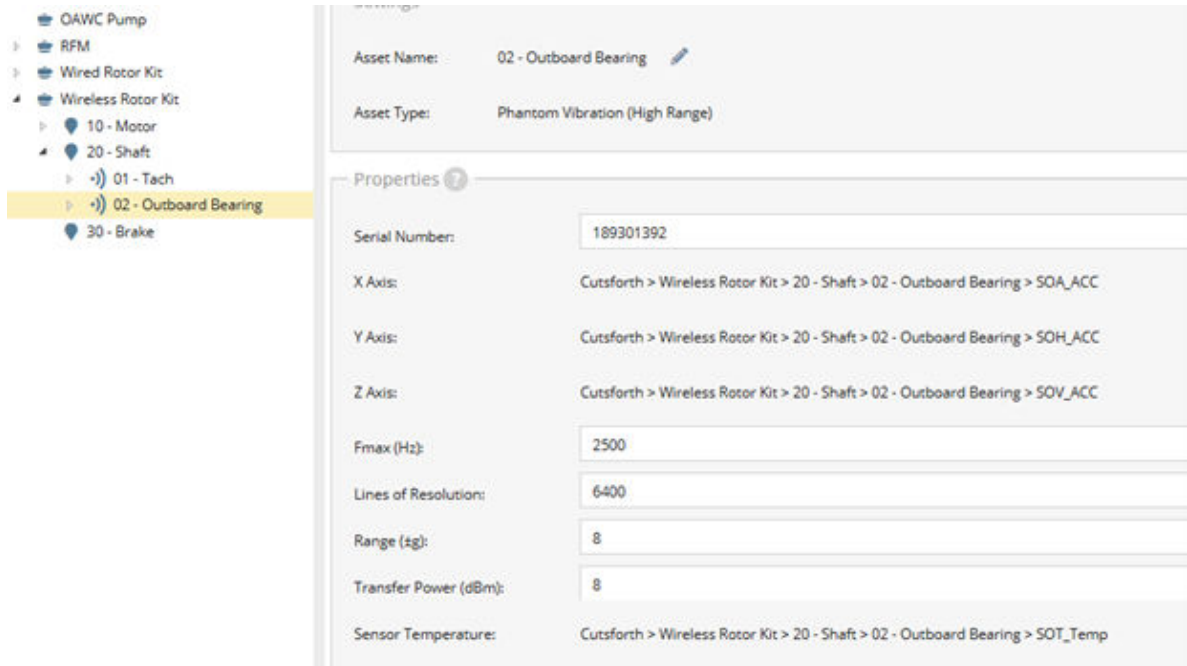

Figure 20. Phantom Sensor Properties
4. Phantom sensors have properties to configure their collection settings (see Figure 20). Note, these settings may have an impact on sensor battery life.